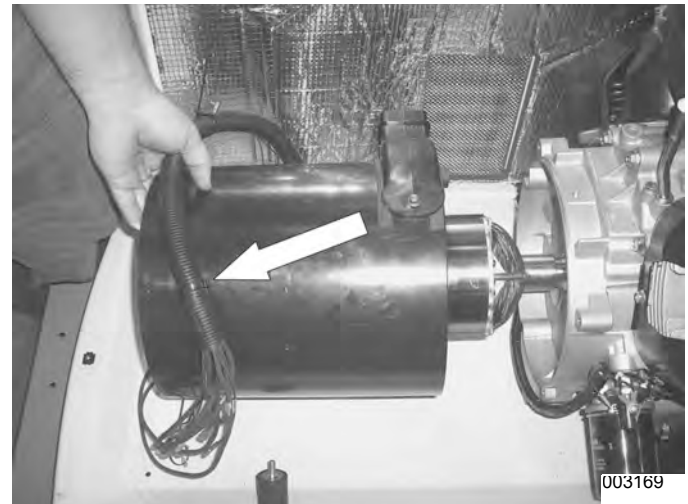

Figure 5-58.
28. See Figure 5-58. Remove stator.